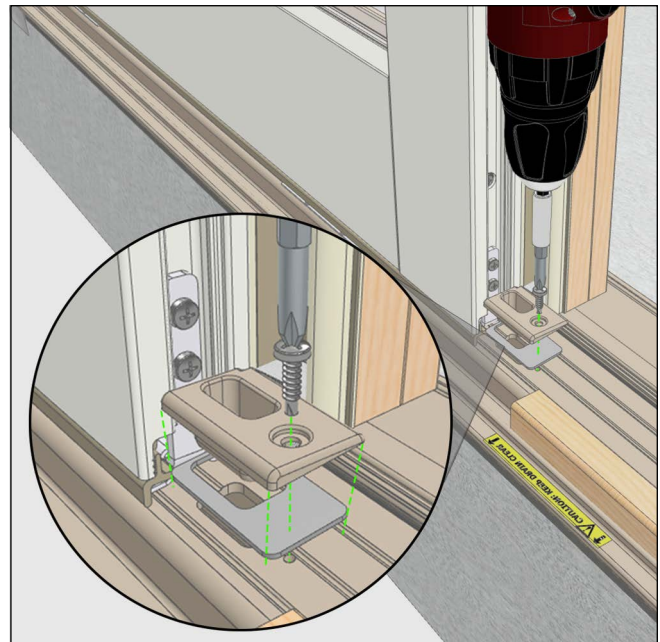

Figure 22
3. Install sill strike using sill color-matched 8-18 x 3/4" pan head screw. See Figure 22.